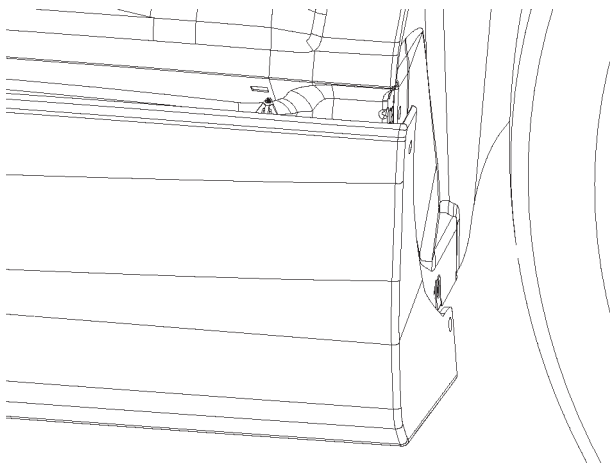

FIGURE 27
11. Line up the rear of the rocker cladding to the outside of the rear wheel liner. Refer to figure 27.